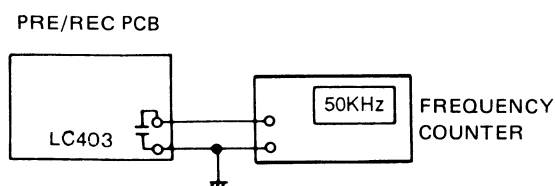

FIG. 7 RECORDING BIAS ADJUSTMENT
- Connect frequency counter to LC403 (See Fig 7) and press the Record button.